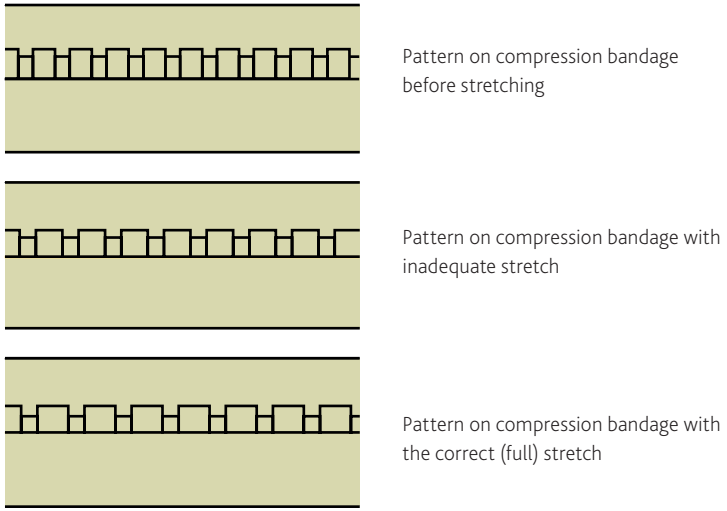

Figure 7: Comparison of compression bandage tightness
3. Use a minimum of two bandage layers at full stretch (no elasticity remaining in the bandage). When the bandage is at its maximum tightness, the small rectangular tension markers will stretch to become square in shape. See *Figure 7* below.